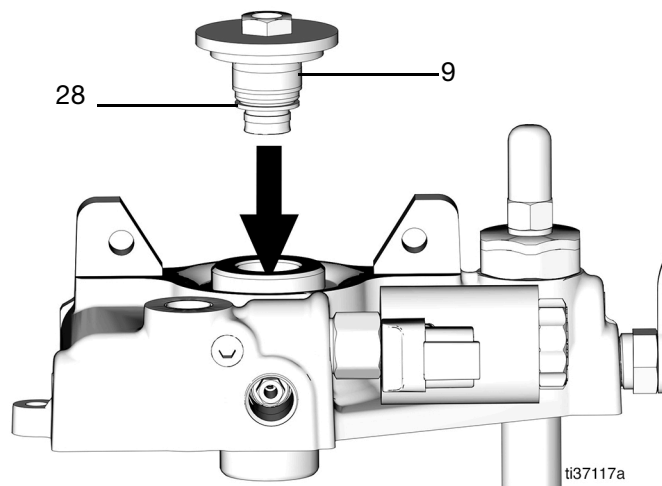

FIG. 53
6. Grease the o-ring (28) and place the retaining nut (9) into the pump housing and tighten slightly (FIG. 53).